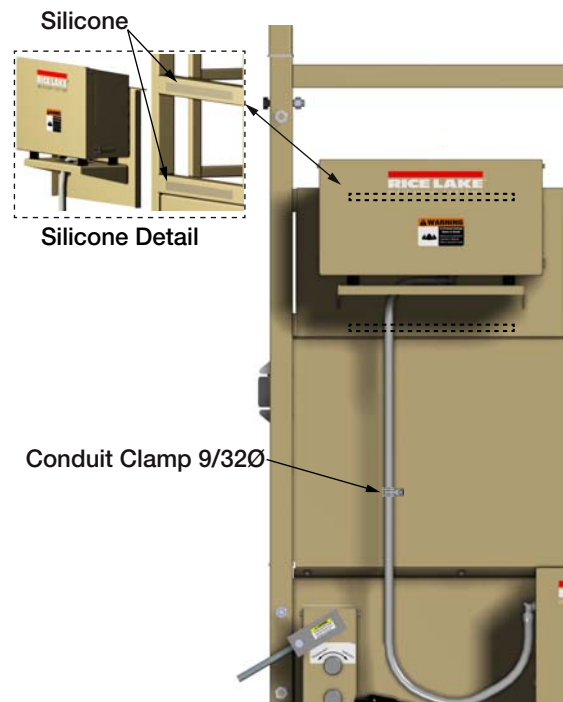

Figure 2-6. Weighcenter Mounting
1. Before installing the bracket, a bead of silicone must be added. See Figure 2-6.
5. Mount the weighcenter onto the mounting bracket and route the cable as shown in Figure 2-6.